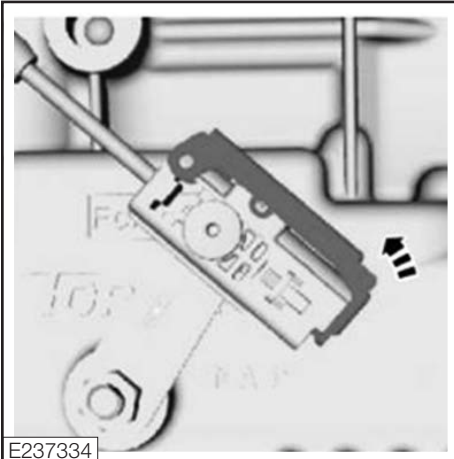

Figure 92
2. Open the adjuster lock (Fig. 92).